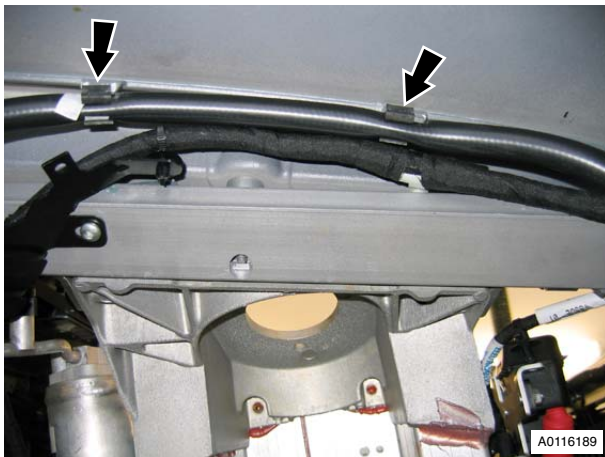

Figure 2
- Remove tube from body (clips x2) (see Figure 2).